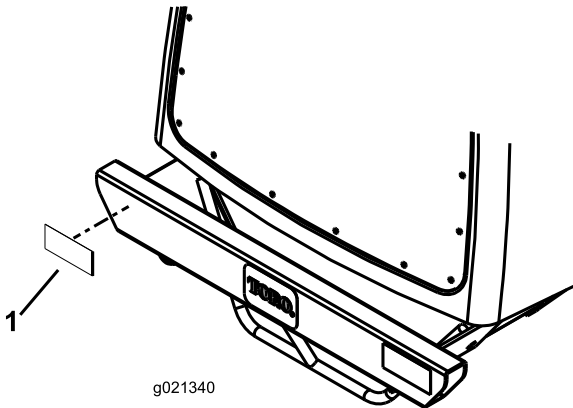

**Figure 36**
1. Apply the yellow reflective tape as shown in Figure 36.
4. Align the front seal, right seal, left seal, and back seal to the roof and head liner as shown in Figure 36.